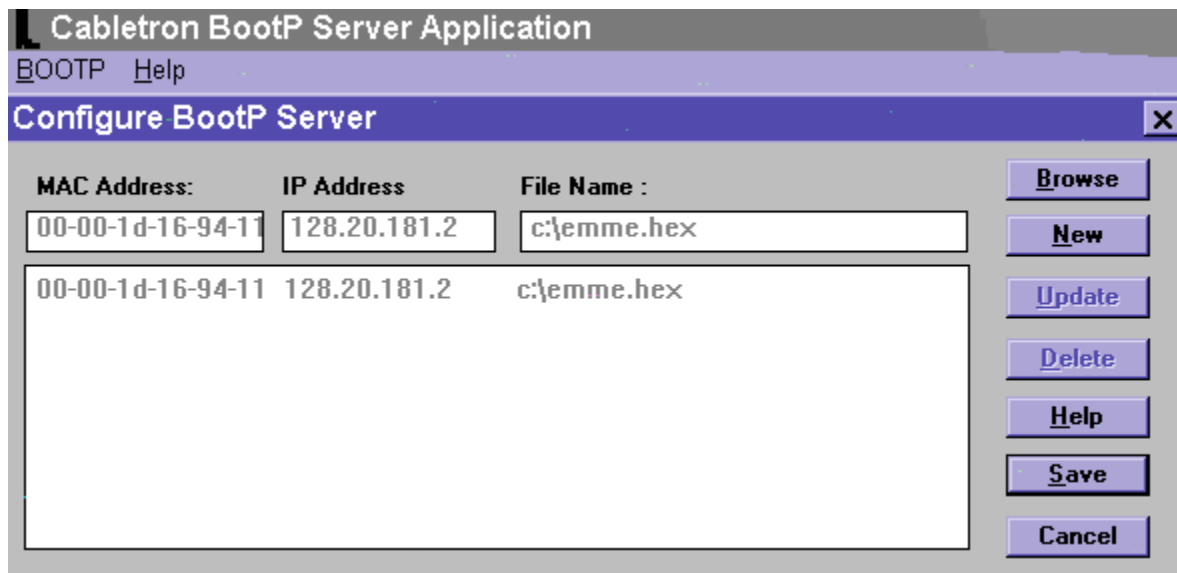

Figure 3-10. Configure BootP Server Screen
3. Double click on the BootP icon, then pull down the configure menu and select Configure BootP Server. The Configure BootP Server screen is displayed (Figure 3-10).